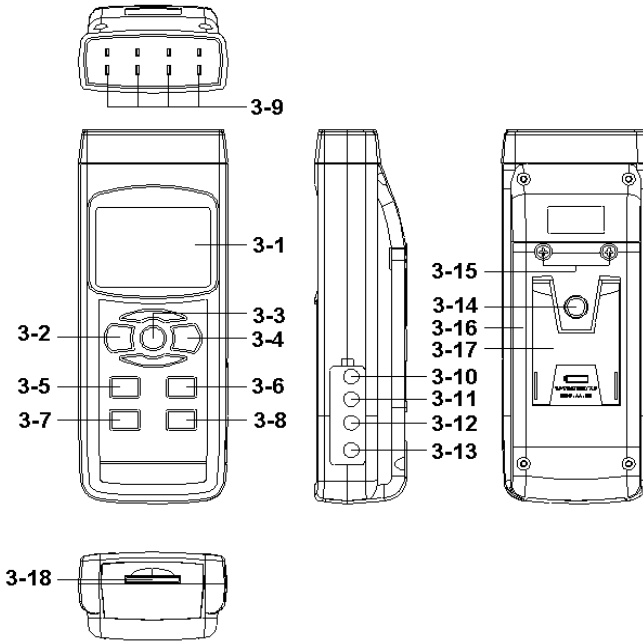

Fig. 1
- 1) Power on the meter by pressing the “Power button” ( 3-2, Fig. 1 ) once.
- 3) Insert the Type K probes into the “T1, T2, T3, T4 input socket” ( 3-9, Fig. 1).
All the measuring procedures are same as the Type K (section 4-1 ) except to select the Temp. Sensor type to “ Type J/K/T/E/R/S” by pressing the “Type Button” ( 3-5, Fig. 1 ) once in sequence until the up LCD display shows the “J/T/E/R/S” indicator.
- 1) All the measuring procedures are same as the Type K (section 4-1 ) except to select the Temp. Sensor type to “Pt” by pressing the “Type Button” (3-5, Fig. 1) once in sequence until the right down LCD display shows “Pt” text as :
**PT1 input socket (3-10, Fig. 1)**
**PT2 input socket (3-11, Fig. 1)**
*Pressing the “T1-T2 button” ( 3-6, Fig. 1 ), display will show the difference temperature value between T1, T2 ( PT1, PT2 ) as :*
During measurement mode, press the “Hold Button” (3-3, Fig. 1) once will hold the measured value & the LCD will display a “HOLD” symbol.
1) The data record function records the maximum and minimum readings. Press the “REC Button” ( 3-4, Fig. 1 ) once to start the Data Record function and there will be a “REC” symbol on the display.
a) Press the “REC Button” ( 3-4, Fig. 1 ) once, the “REC MAX” symbol along with the maximum value will appear on the display.
If you wish to delete the maximum value, just press the “Hold Button” (3-3, Fig. 1) once, the display will show the “REC” symbol only & execute the memory function continuously.
b) Press the “REC Button” (3-4, Fig. 1) again, the “REC MIN” symbol along with the minimum value will appear on the display.
If you wish to delete the minimum value, just press the “Hold Button” (3-3, Fig. 1) once, the display will show the “REC” symbol only & execute the memory function continuously.
After power ON, the “LCD Backlight” will light automatically. While in measurement mode, press the “Backlight Button” (3-2, Fig.1) once will turn OFF the “LCD Backlight”.
Prepare a " SD memory card " ( 1 GB to 16 GB, optional ), insert the SD card into the " SD card socket " ( 3-18, Fig. 1). The front panel of the SD card should face against the down case.
Press the “REC Button (3-4, Fig. 1) once , the LCD will show the text “REC”, then press the “Logger Button” (3-8, Fig. 1), the “REC” will flash and the beeper will sound at the same time the measuring data along with the time information will be saved into the memory circuit.
During execute the Datalogger function, press the “Logger Button” (3-8, Fig. 1) once will pause the Datalogger function (stop to save the measuring data into the memory circuit temporally). At the same time the text of " REC " will stop flashing.
*If you press the “Logger Button” ( 3-8, Fig. 1 ) once again, it will execute the Datalogger again, the text of “REC” will be flashing .*
To pause the Datalogger, press the “REC Button” ( 3-4, Fig. 1) continuously for at least two seconds, the “REC” indicator will disappear and stop the Datalogger.
Press the “REC Button” (3-4, Fig. 1) once , the LCD will show the text “REC”, then press the “Logger Button” ( 3-8, Fig. 1 ) once, the “REC” will flash once and the Beeper will sound once, at the same time the measuring data along the time information and the Position no. will be saved into the memory circuit.
- \* During execute the Manual Datalogger, use the “▲” Button (3-5, Fig. 1) or “▼” Button (3-6, Fig.1) to set the measuring position (1 to 99, for example room 1 to room 99) to identify the measurement location.*
Press the “REC Button” (3-4, Fig. 1) continuously at least two seconds, the “REC” indication will be disappear and stop the Datalogger.
During the normal measurement (not execute the Datalogger). If you press “Time check Button” (3-7, Fig. 1) once, the lower LCD display will present the time information of Year/Month, Date/Hour, Minute/Second.
During the normal measurement mode (not execute the Datalogger), If you press “Sampling Button” (3-8, Fig. 1) once, the lower LCD display will present the Sampling time information in seconds.